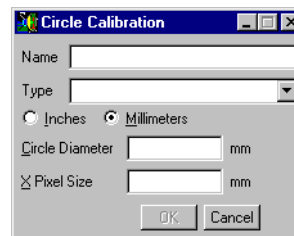

Figure 6-16 Circle Calibration
2. Select **New** or (**Modify** to re-calibrate an existing lens) in the *Lens Calibration* dialog box, the *Circle Calibration* dialog box is displayed; see Figure 6-16.